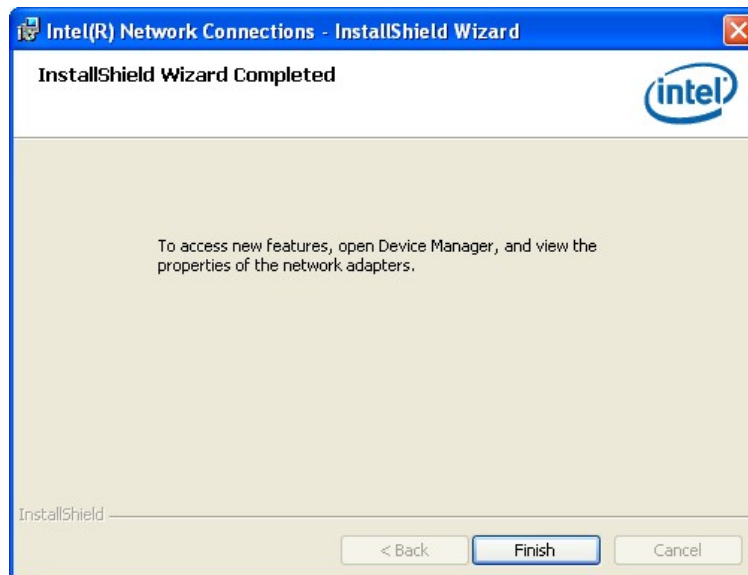

Figure 6-18: LAN Driver Installation Complete
Step 17: When the driver installation is complete, the screen in **Figure 6-18** appears.